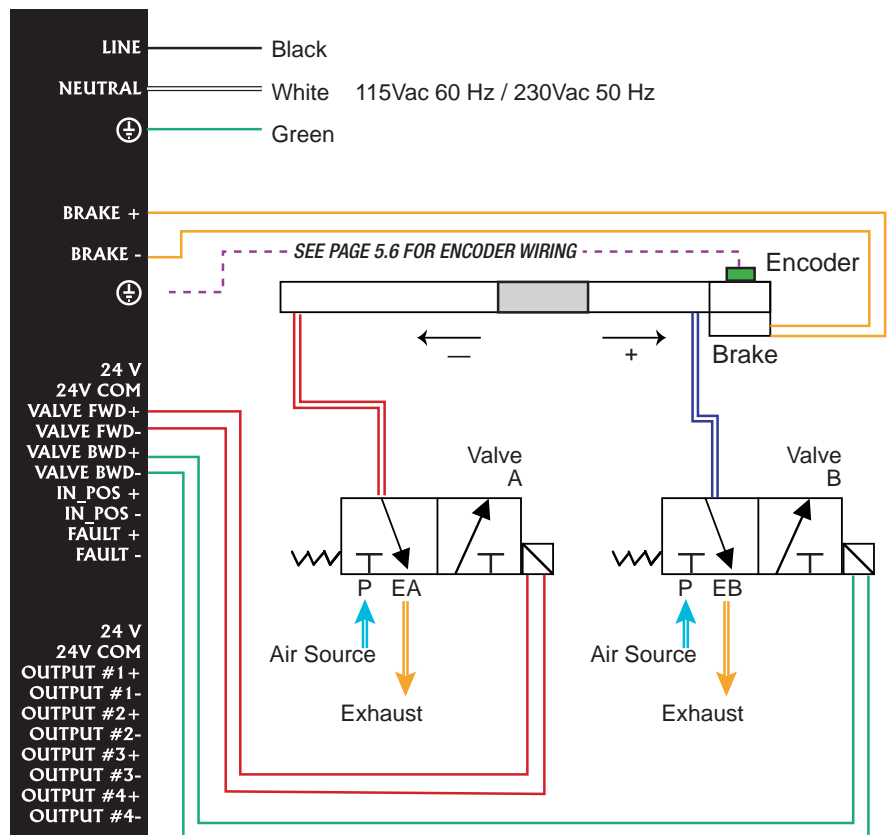

Figure 5.2
B. Using two 2-position 3-way normally closed valves with 24Vdc solenoids: Connection is shown in Fig. 5.2. When using this valve configuration Tol-O-Matic recommends **"Energized"** for the "In Position Valves" selection in the Set-up portion of the PAS controller software. (see Figure 6.1, pg. 6-4)